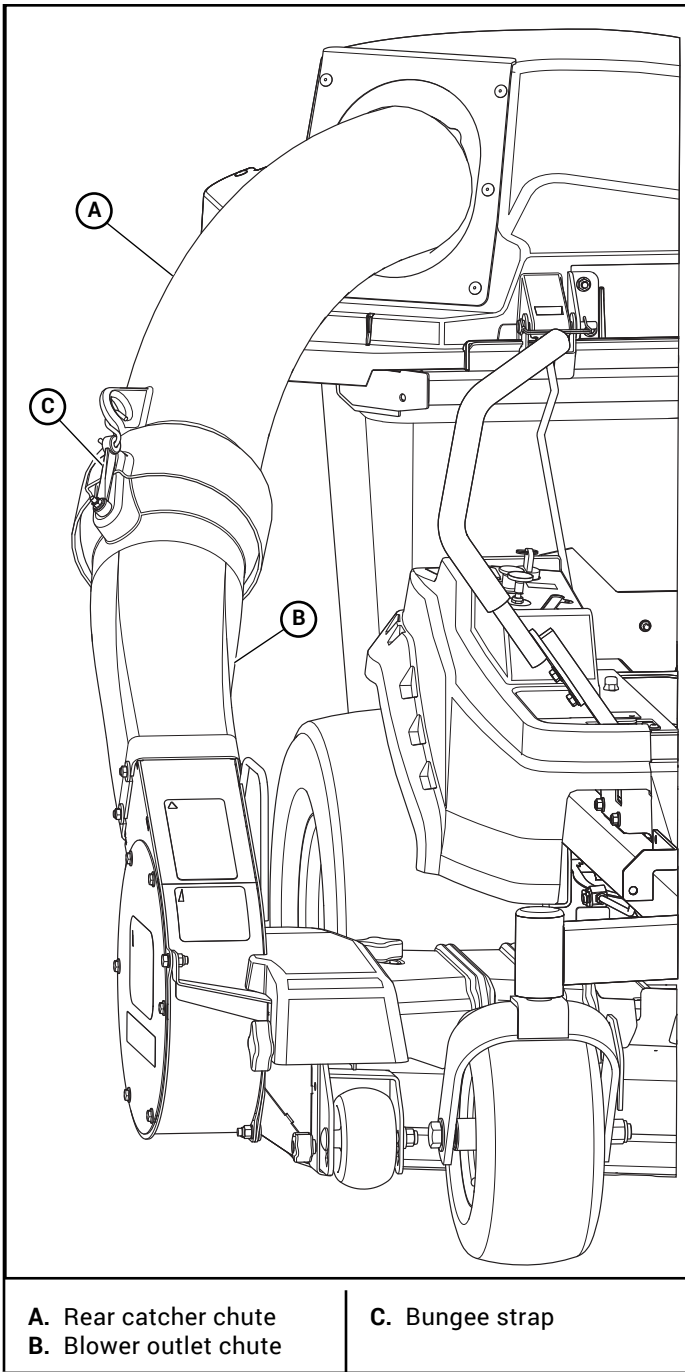

Figure 5-1
- Rear catcher chute is in place and secured on the front catcher chute and deck. Figure 5-1
- Transfer tube is secured in place, with the elastic strap, on the outlet tube and is inserted into the catcher lid. Figure 5-1
To service the rear catcher chute, remove the chute from the unit. The chute can be cleaned by using soapy water and washing the inside of the chutes with a pressure washer. Rinse with water. Figure 5-1